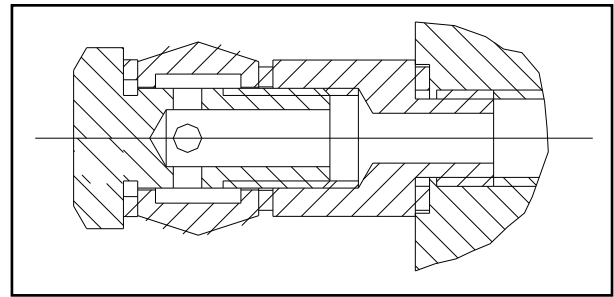

Fig. 32
- ◆ Connect the hydraulic unit to the circuit crossing with a flexible pipe. (*Fig. 32*)